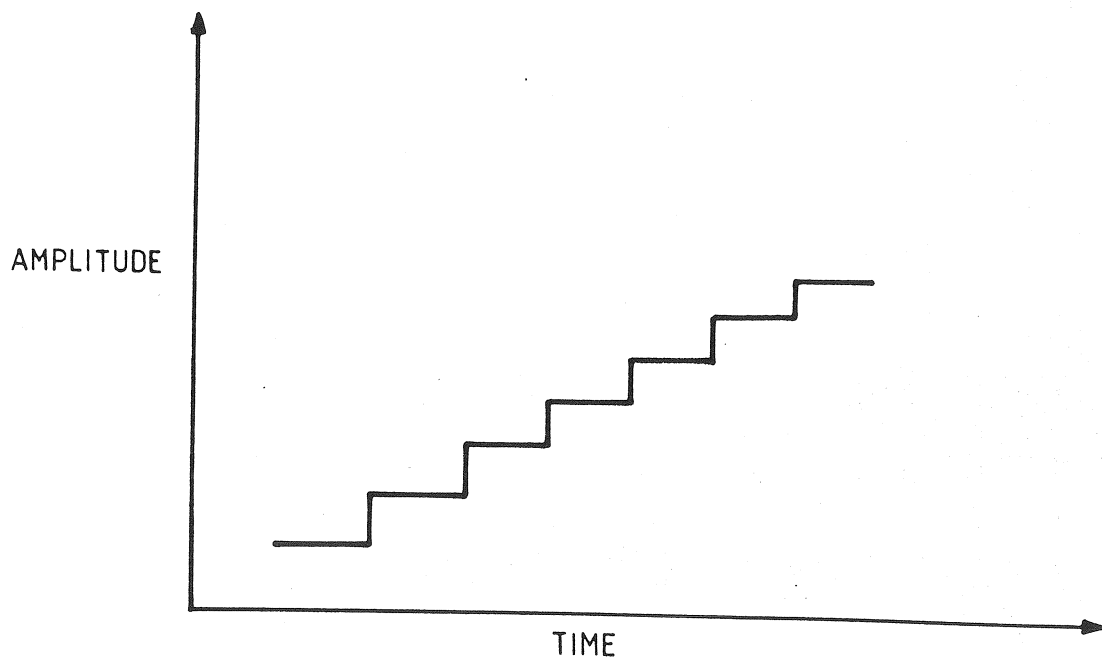

Fig. 3A.4
- 21 Figure 3A.4 shows the waveform of the stepped voltage.
- 23 A functional block diagram of the main loop variable preset divider is shown in Figure 3A.5.